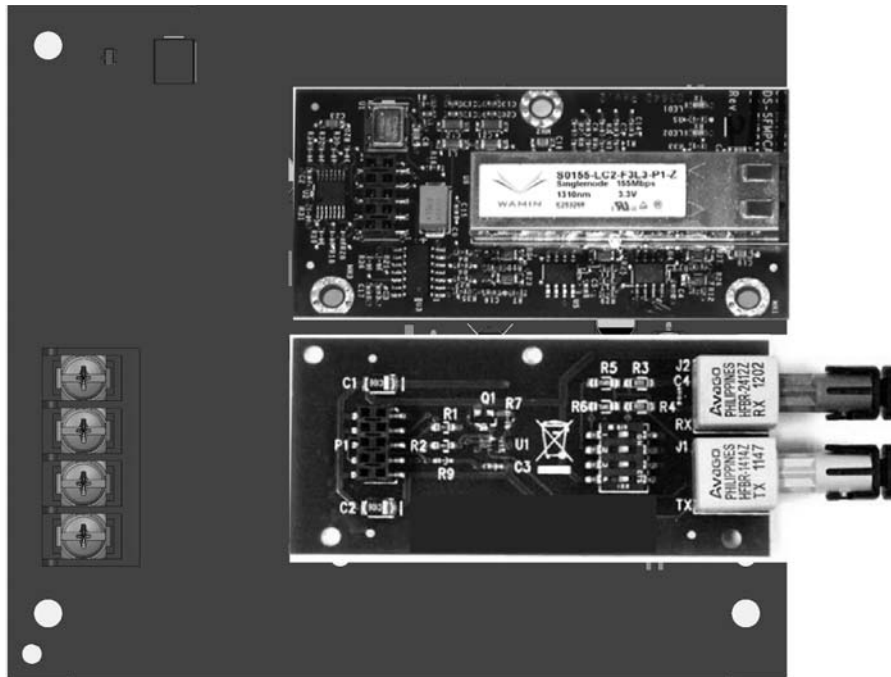

Figure 5-5 SK-NIC with Fiber Loop Modules
Each fiber loop module can Transmit (TX) and Receive (RX) fiber-optic cable connecting to the SK-NIC. Up to two fiber loop cards can be added to the SK-NIC, and both cards may be combined in the same configuration. See Figure 5-5.